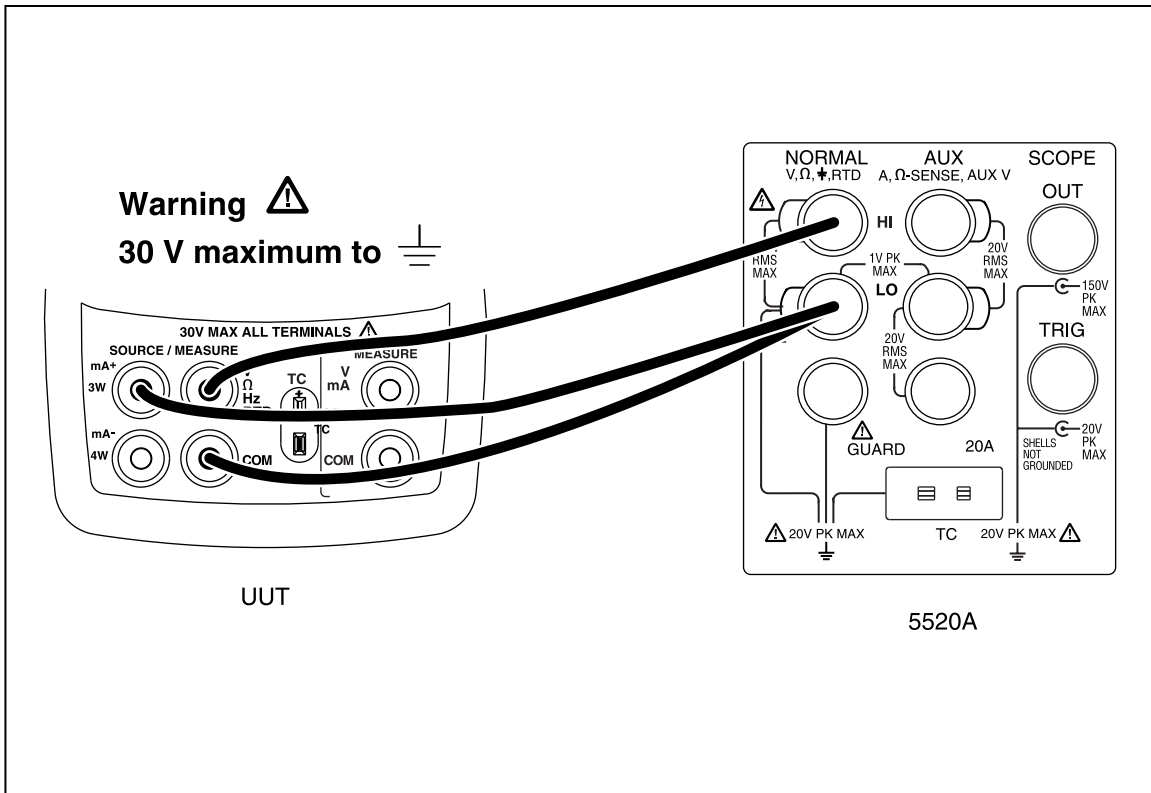

Figure 9. Lower Display 3-Wire Resistance Test Connections
3. Make the connections shown in Figure 9.